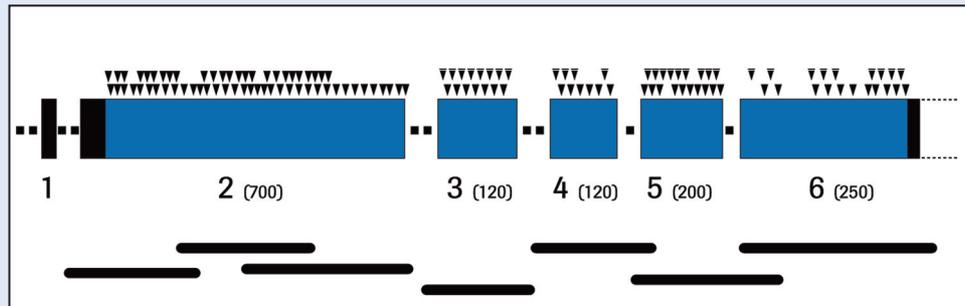

Figure 5: This typical gene, which has exons of differing lengths, requires careful placement of primers to get appropriate amplicons for the HRM analysis.
The following guidelines will help you design a gene scanning experiment to analyze a typical gene (*e.g.*, the one in Figure 5):
- If the exon to be scanned is not too long (maximum length 400 bp, ideally < 250 bp; *e.g.*, exons 3–6 in Figure 5), place the primers in the adjacent introns. This allows the entire exon to be scanned as a single amplicon.
- Longer exons (*e.g.*, exon 2, Figure 5) should be divided in several segments (*e.g.*, amplicons of approx. 300 bp each). Design the primers for these segments in a way that the amplicons overlap.